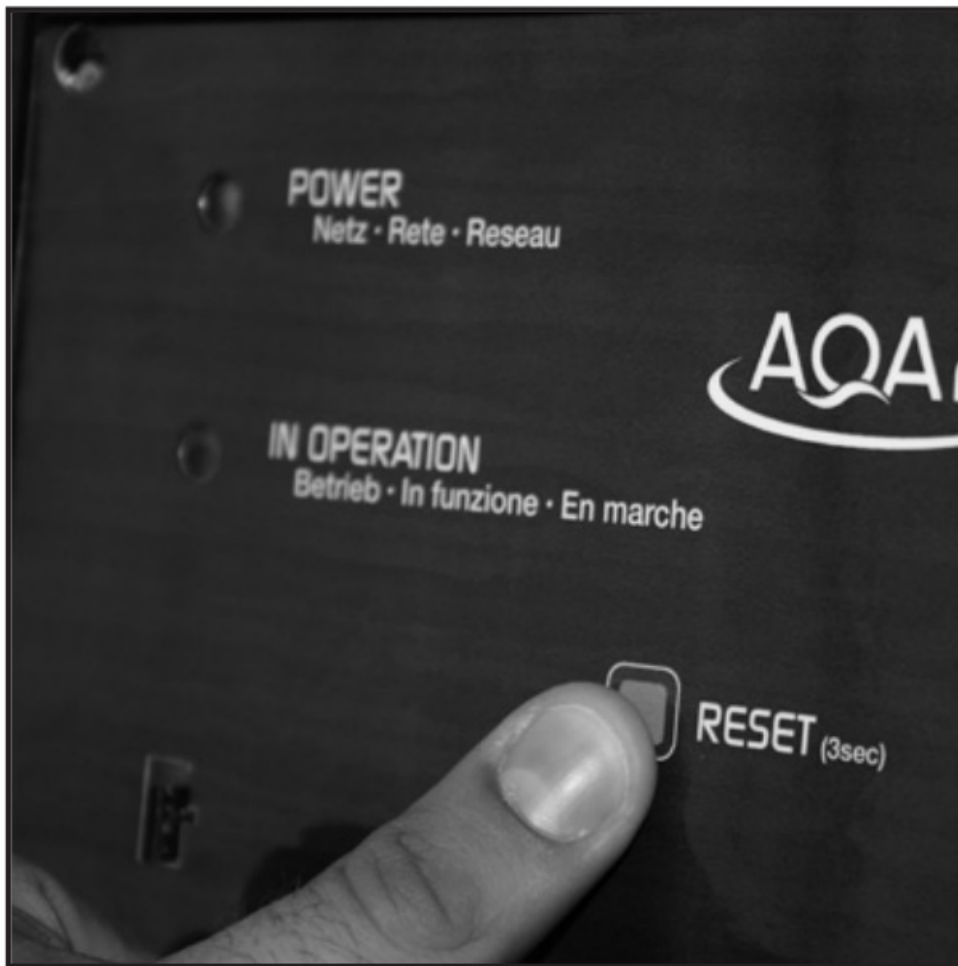

Fig. 20
- **X.** Now confirm that the limescale protection unit has been changed, by holding the “RESET” key for around three seconds (see Fig. 20).